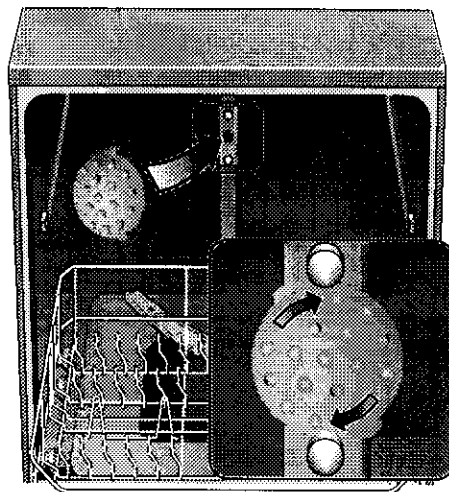

Figure 37
2. Place the "Extra Tall Item Sprinkler" over the top rack spray outlet at the back of the dishwasher tub and turn it clockwise to lock the sprinkler head in place. See Figure 37.